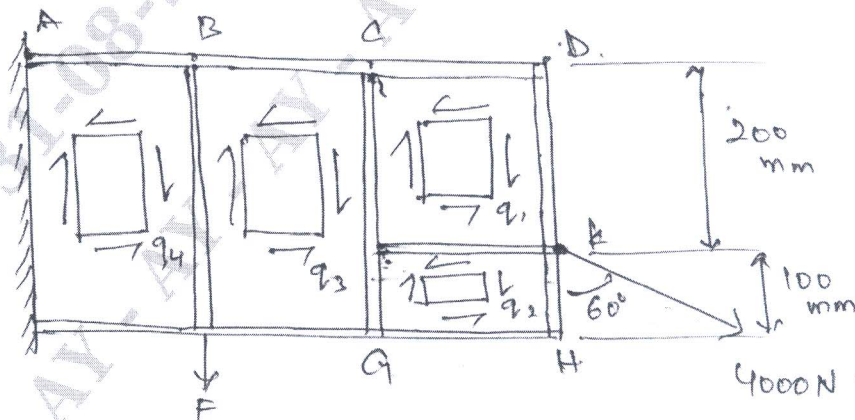

Fig. Q10
- 10 A cantilever beam carries concentrated loads as shown in Fig. Q10. Calculate the distribution of stiffness loads and the shear flow distribution in the web panels, assuming that the later an effective only in shear. (16 Marks)